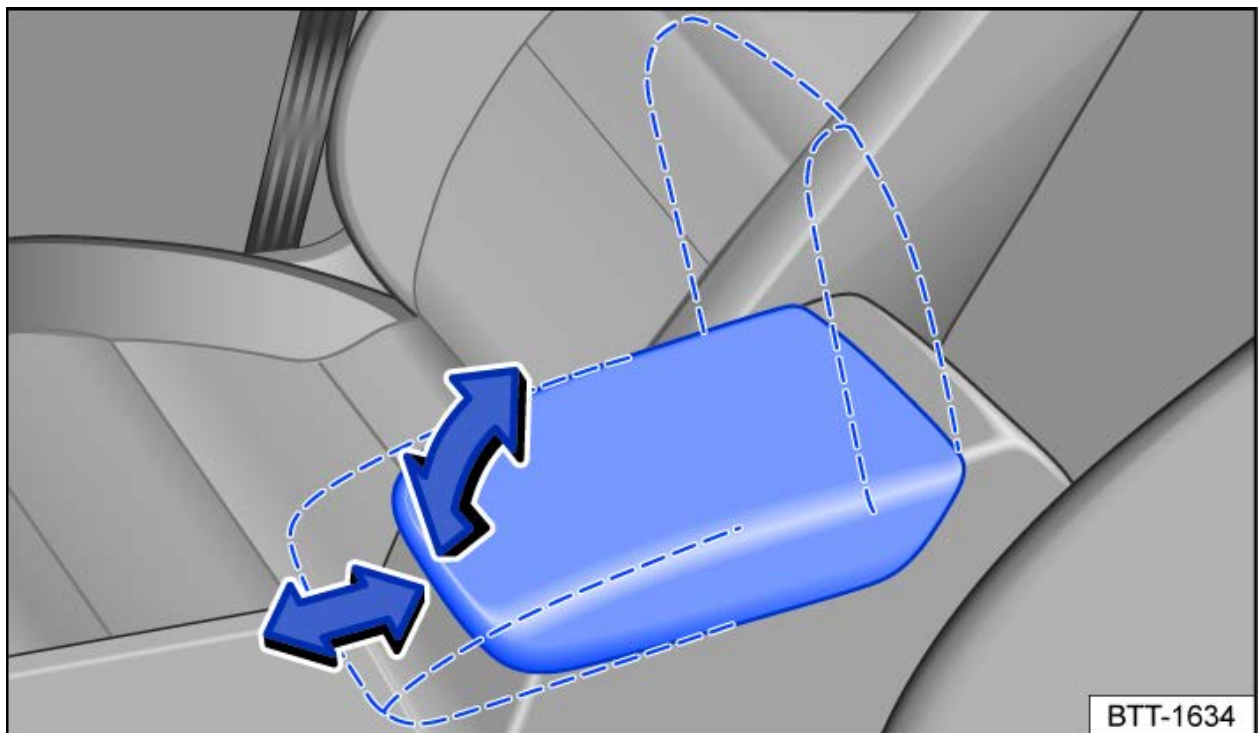

Fig. 1 Front center armrest.
- To *lift*: Pull the center armrest up to the detents in the direction of the arrow → *fig. 1*.
- Fore-and-aft adjustment*: slide the center armrest in the direction of the arrow all the way forwards → *fig. 1* or rearwards.